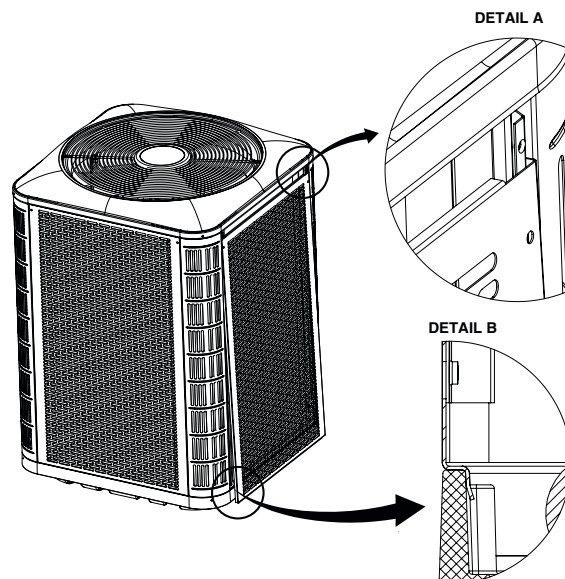

Figure 4. Panel Installation
1. Insert the top corners of side panel flanges into the corner post channels as shown in Detail A in Figure 4.